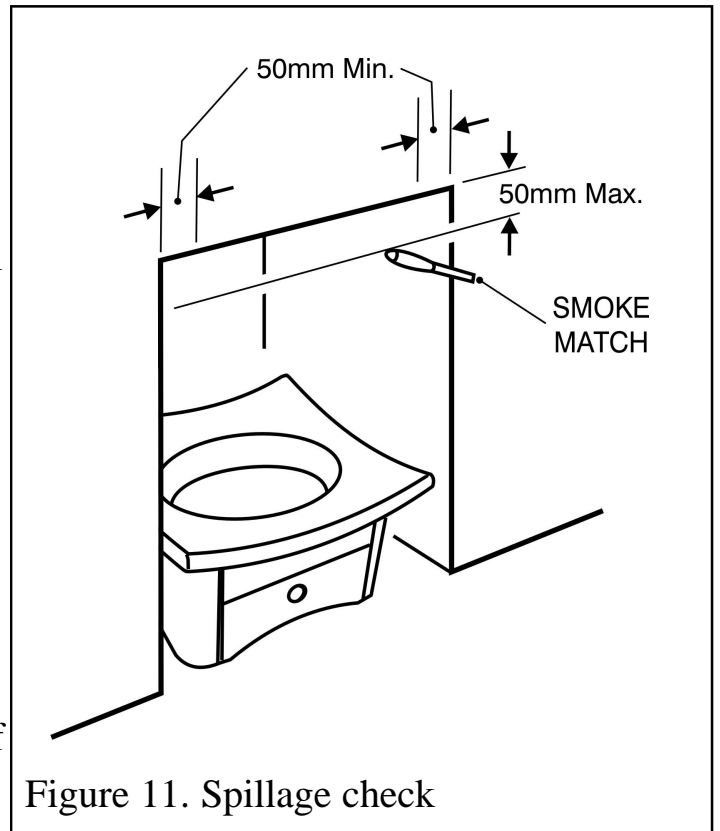

Figure 11. Spillage check
- A spillage check must be made before leaving the installed appliance with the customer. Make this with all the ceramic fuel effect pieces and firefront cover in position (See figure 11 )